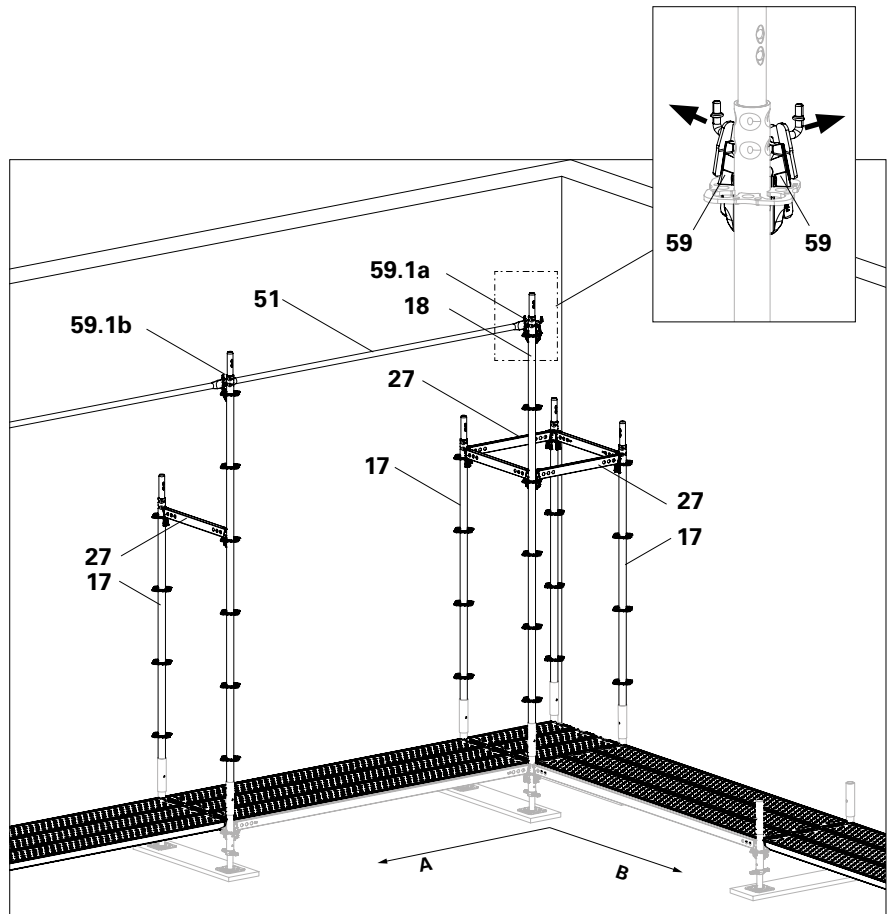

Fig. B6.09
5. Hook the other side of the guardrail post onto the standard with the pre-assembled guardrail holder (**59.1b**) and fit it in place. (Fig. B6.09)